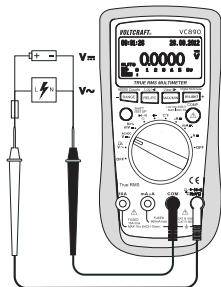

Fig. 2
2. Insert the red test lead into the $\text{^{\circ}CHzV}\Omega$ measuring socket (7), the black test lead into the COM measuring socket (8) (Fig. 2).